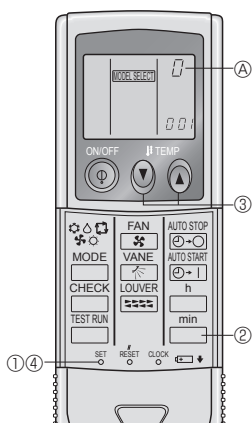

Fig. 6-4
4) IR wireless remote controller pair number setting operation (Fig. 6-4)